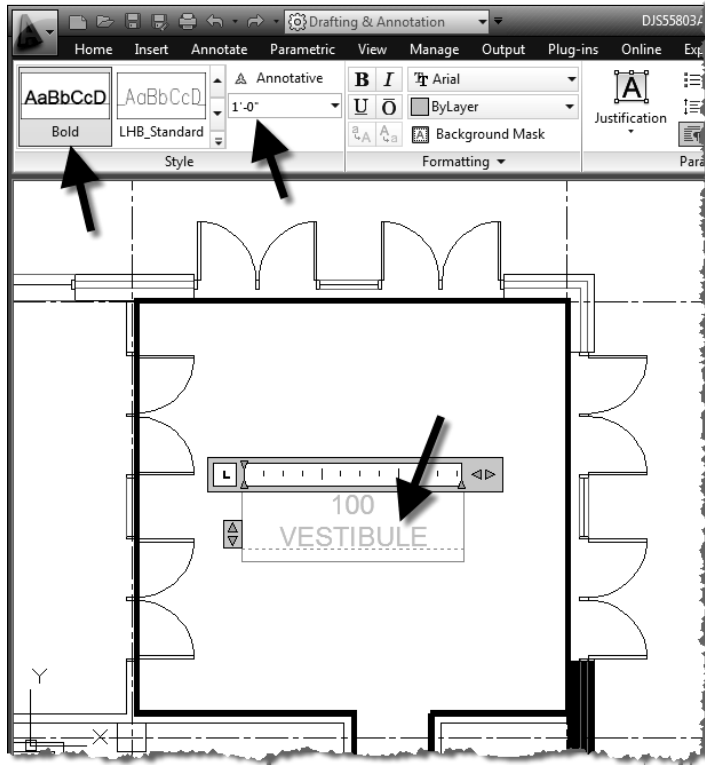

FIGURE 4-4.3 Adding vestibule number and name
9. Add the text to the Vestibule as shown (as Multiline Text) in Figure 4-4.3, *plus*: